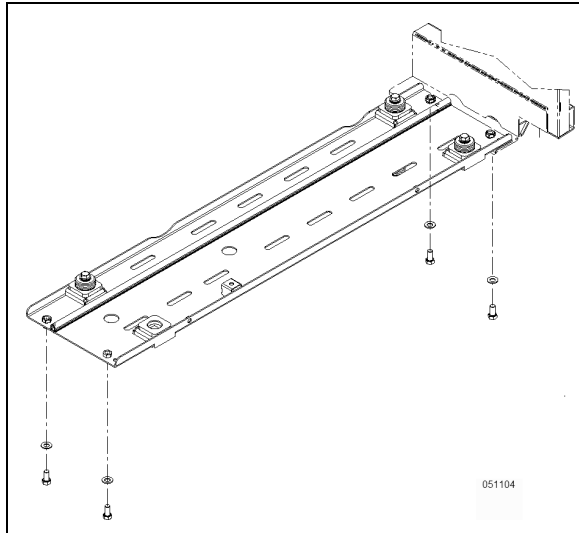

FIGURE 37: LOWER SUPPORT MOUNTING BOLTS
17. Unscrew the lower support from the vehicle (two hex bolts at each end of the support Figure 37).